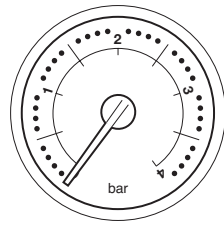

Fig. 2
5. It may be necessary to repressurise the system occasionally (Fig. 2). A filling device (the filling loop) will be fitted on the system.